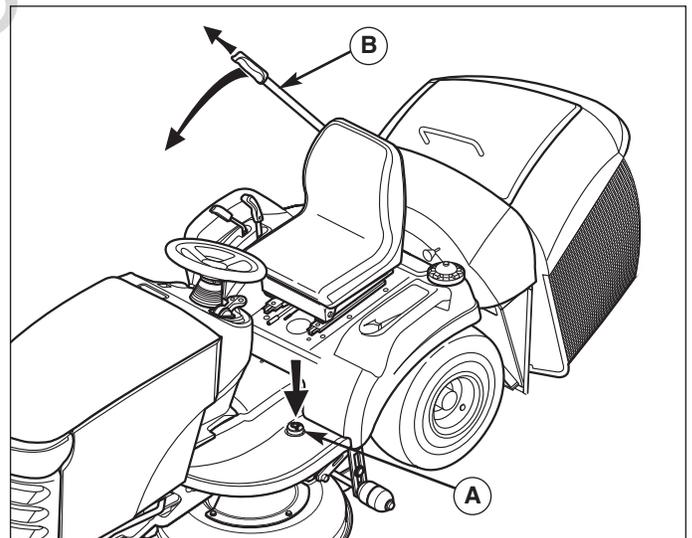

**Figure 3. Engaging the Parking Brake**
**Applying the Parking Brake** - See Figure 3. To lock the parking brake, release the ground speed pedals (A), fully depress the brake pedal (B), pull UP on the parking brake knob (C), and then release brake pedal.
**Releasing the Parking Brake** - See Figure 3. To release the parking brake, fully depress the brake pedal (B) and push the parking brake knob (C) DOWN.